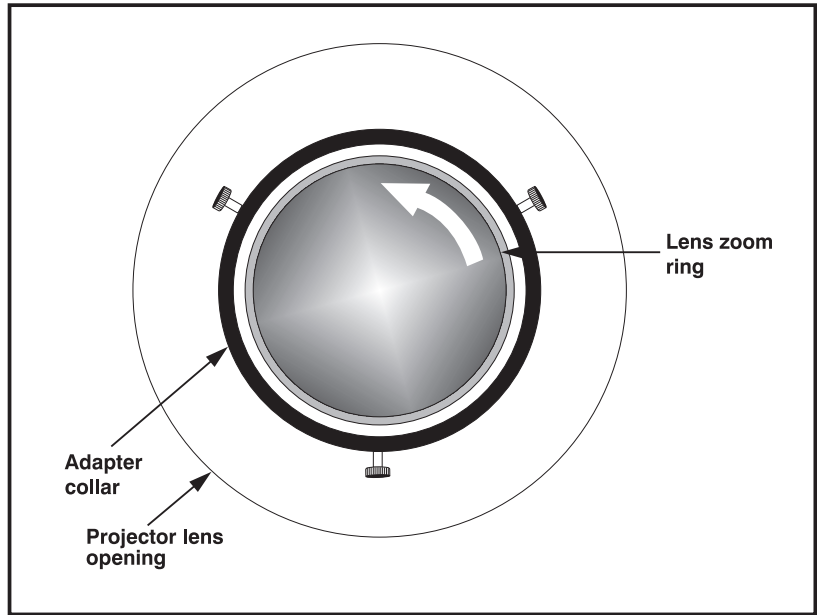

Figure 4-13. Turn lens zoom ring **ALMOST** as far as possible
- e) Face the front of the projector and manually turn the lens zoom ring counter-clockwise as far as possible (see Figure 4-13). Then turn clockwise very slightly — about an eighth of an inch.